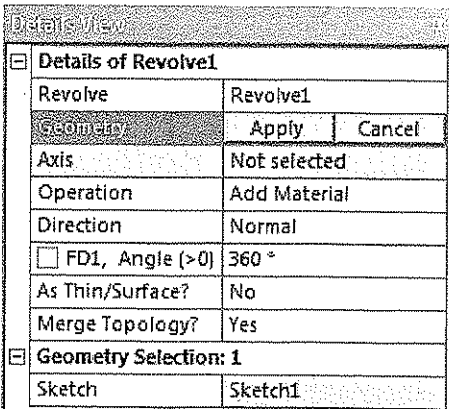

Figure 4-38 The Geometry edit box with the Apply and Cancel button
2. Click on the **Geometry** selection box in the **Details View** window; the **Apply** and **Cancel** buttons are displayed, as shown in Figure 4-38.